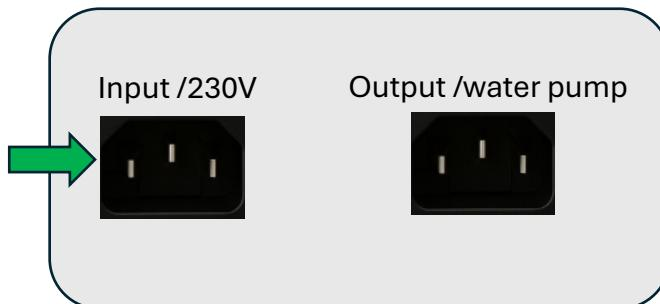

Figure 4. Connecting input 230V power cable
- Connect Power cable to device and plug to 230ACV supply. (Figure 4)